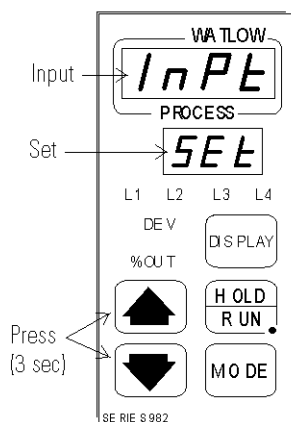

Figure 4-4. Input and Set Appear
1. Press the Up and Down Arrows at the same time and hold them for about three seconds. The words “inpt” (input) and “set” will appear in the top and bottom displays. (Figure 4-4) If numbers in the bottom display begin to scroll up or down, the keys have not been pressed simultaneously. Try again.